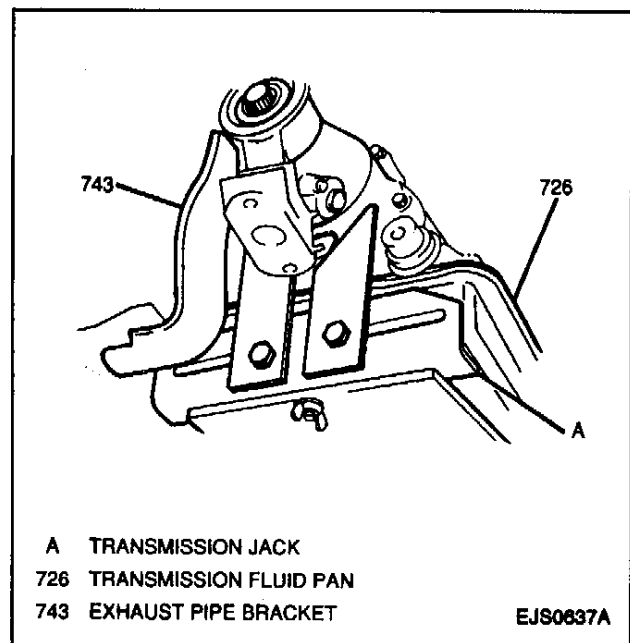

Figure 122—Exhaust Pipe Bracket—Typical
42. Two bolts, two nuts and exhaust pipe bracket from extension housing (two-wheel drive models) (Figure 122).
6. Exhaust pipe bracket to extension housing and catalytic converter; secure with two bolts and two nuts (two-wheel drive models) (Figure 122).